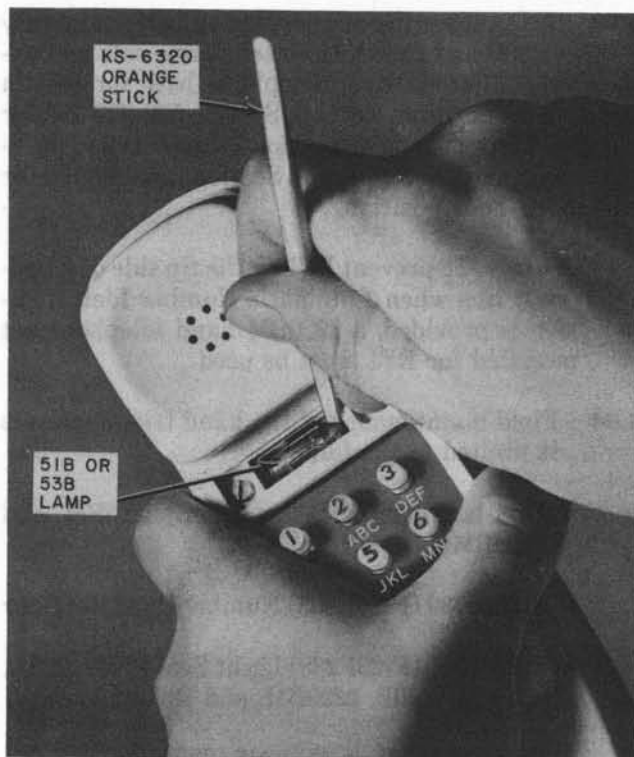
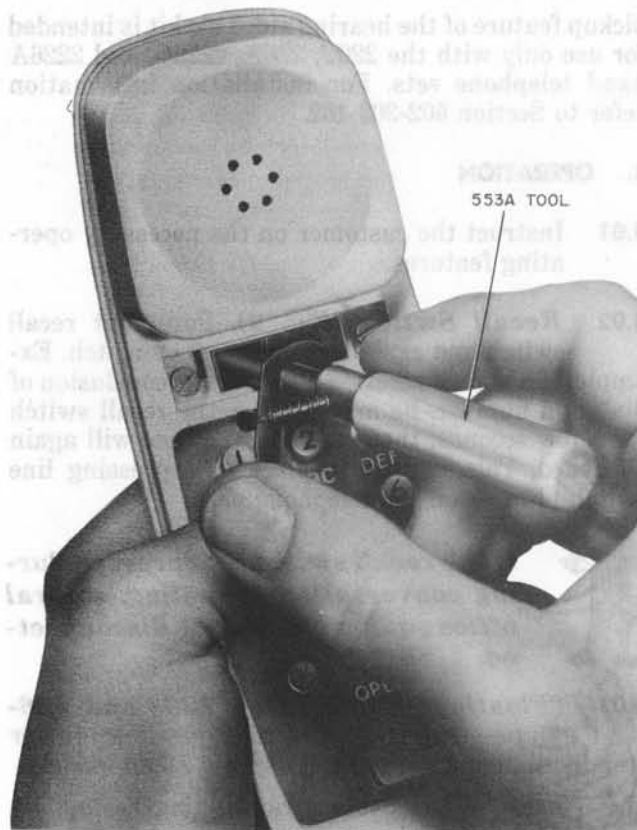

Fig. 20—Removing Dial Lamp From 2220BM Hand Telephone Set
Fig. 21—Removing Dial Lamp Using 553A Tool
5.05 To replace an incandescent dial lamp in the TRIMLINE hand telephone sets, remove cover and light-seal plate. Current production hand telephone sets have the lamp in a horizontal position, and a KS-6320 orange stick can be used to remove the lamp (Fig. 20). In early production hand telephone sets use a 553A tool to remove the lamp from its vertical position (Fig. 21).